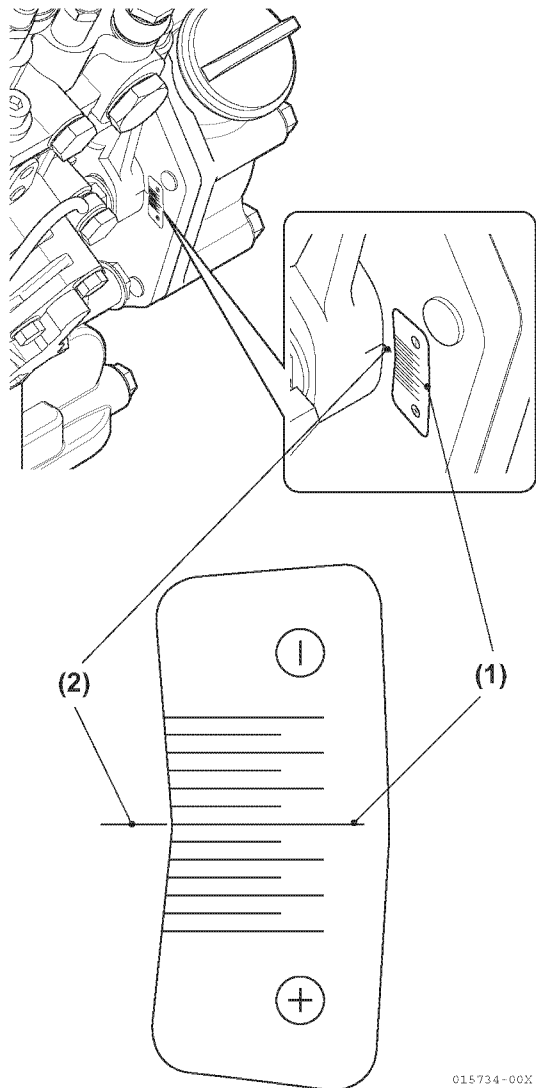

Figure 6-70
- Reinstall the timing grid sticker, provided with the new fuel injection pump, onto the back of the gear case / front plate (Figure 6-70). Align the “standard mark” (Figure 6-70, (1)) with the reference mark (Figure 6-70, (2)) made on the gear case during disassembly.